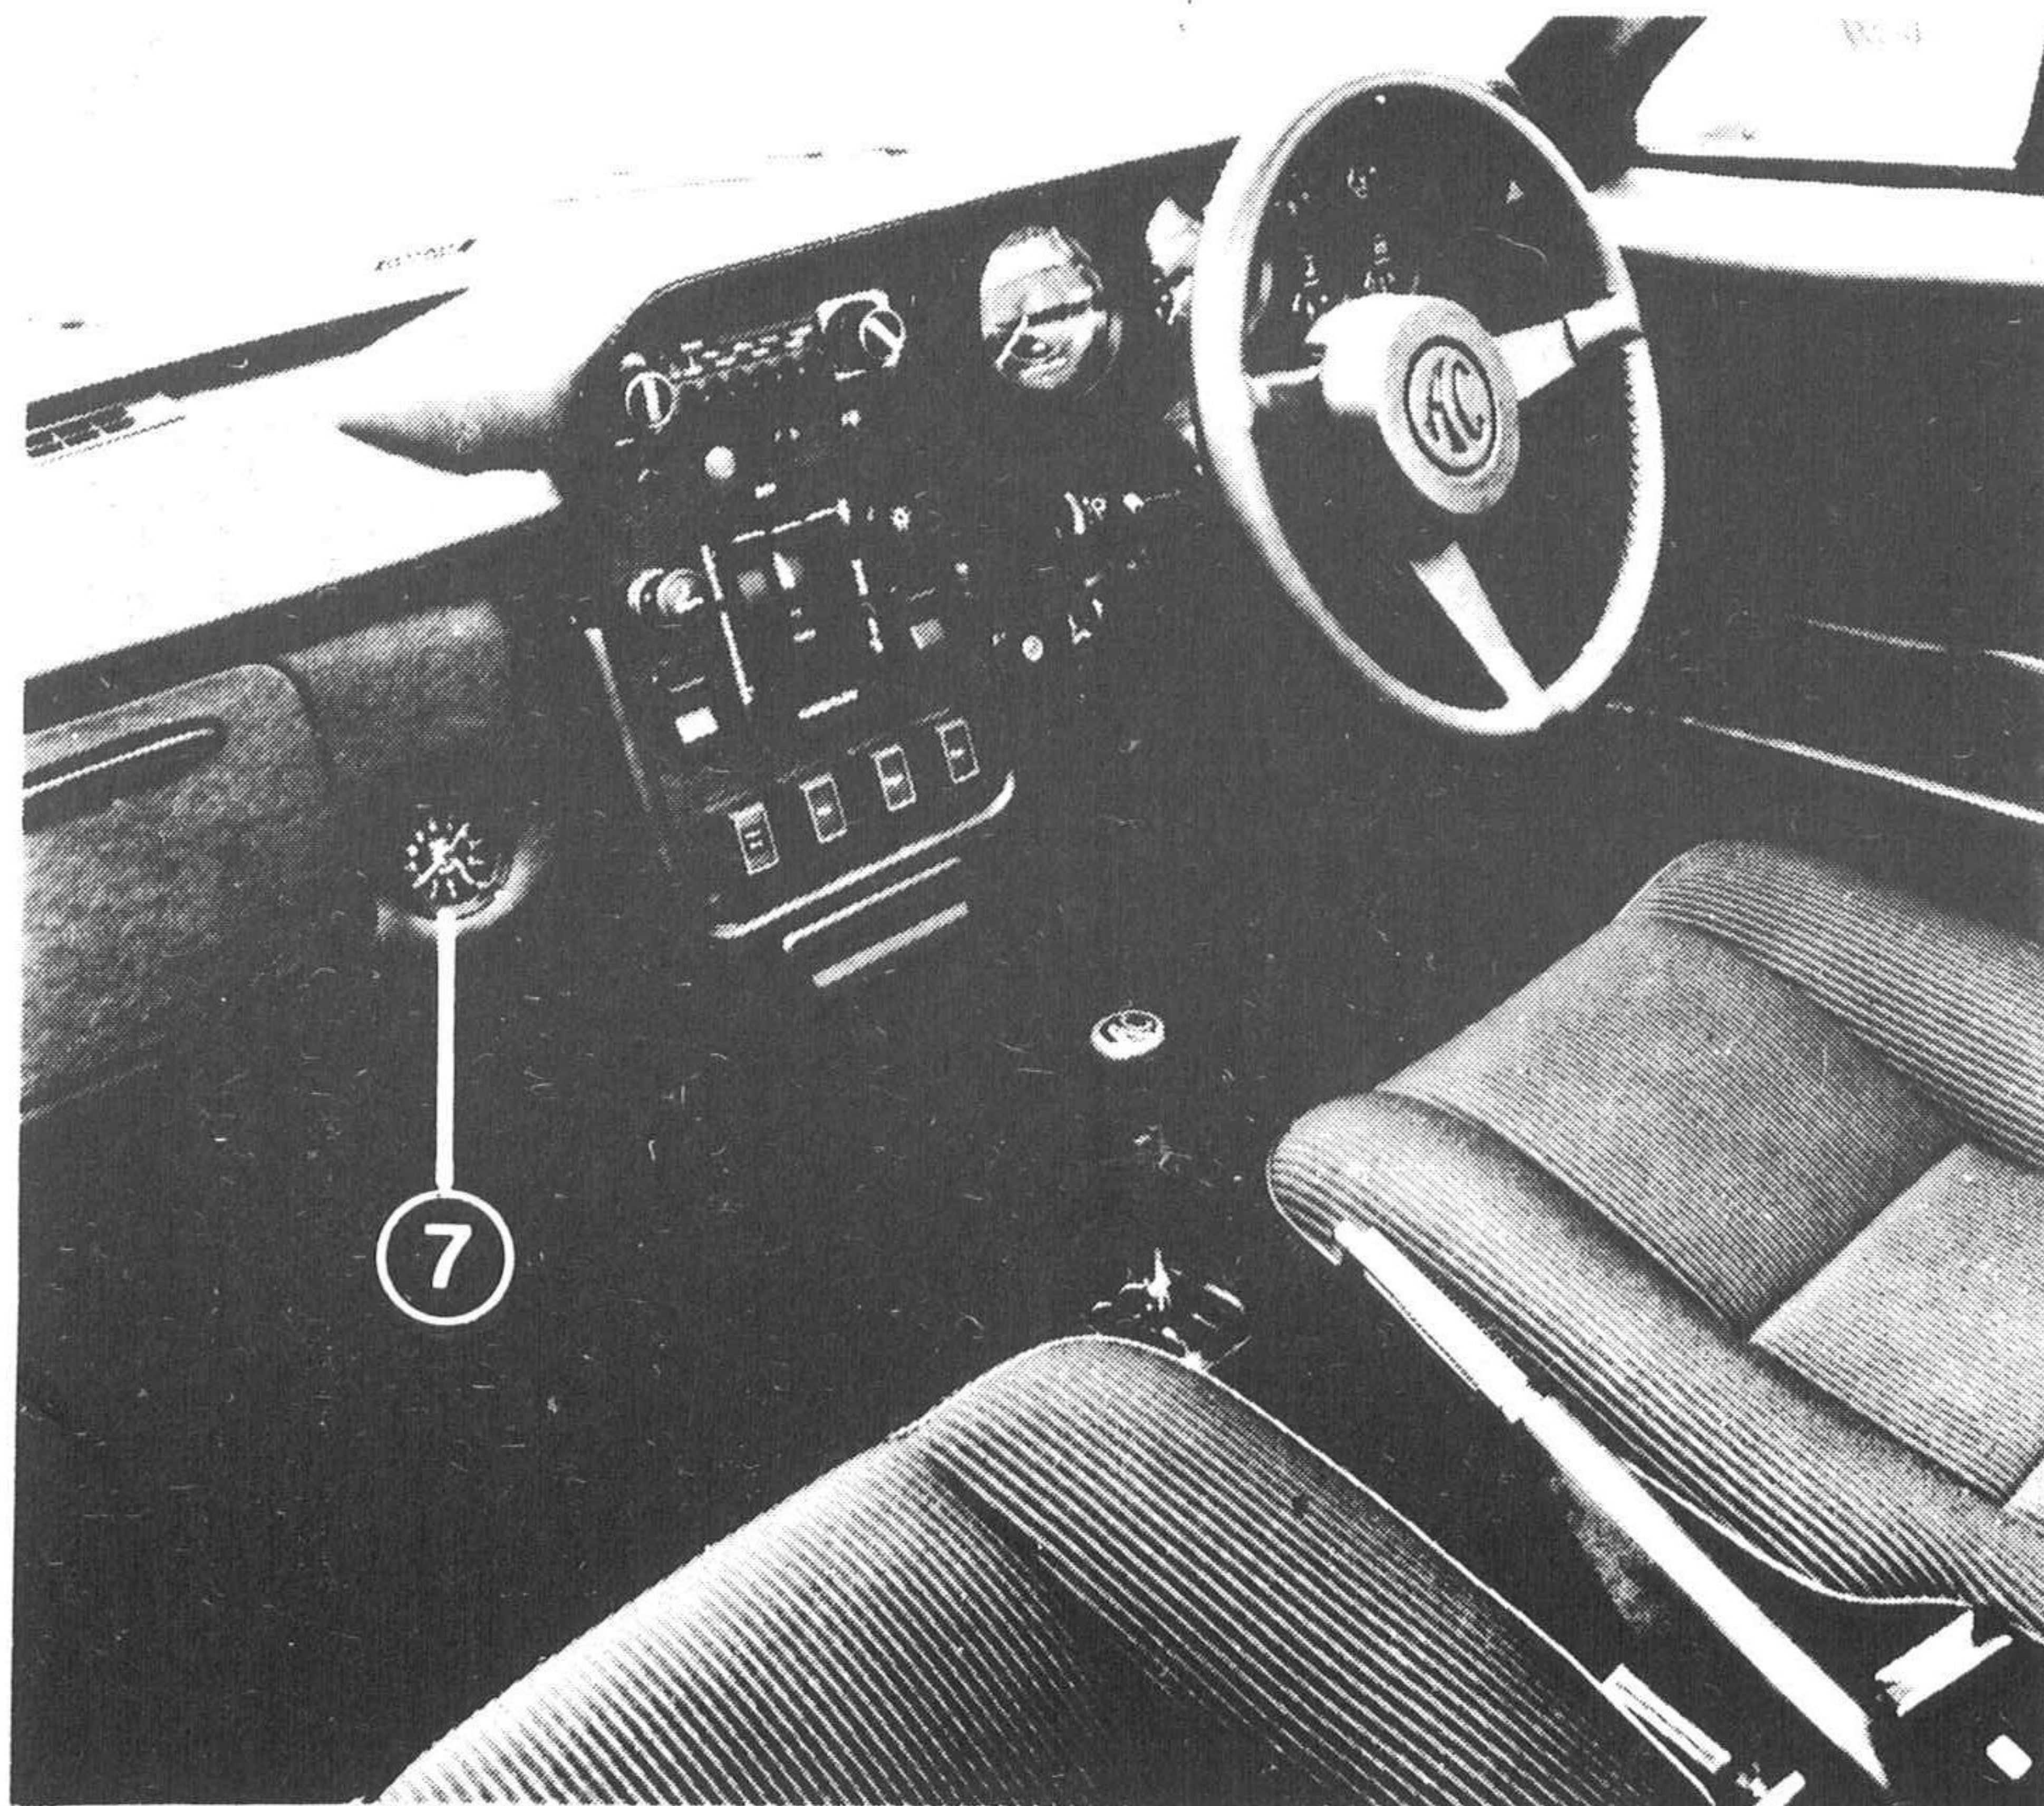

Fig 2
- 7 Clock** – Mounted on passenger's side of central console. Quartz-crystal movement, self-winding, with reset button. (See Fig 2).